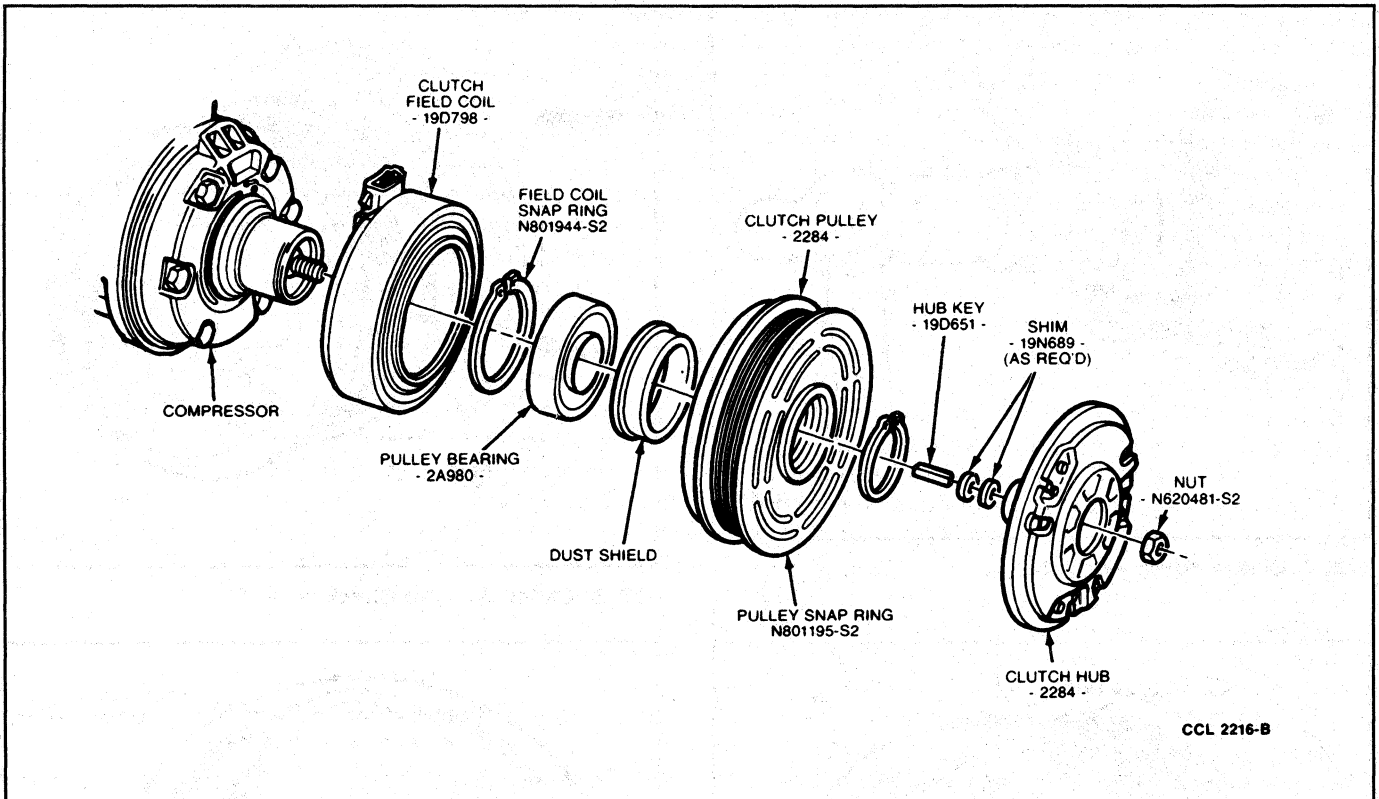

FIG. 5 Clutch Assembly Disassembled
4. Remove two bolts attaching the manifold and hose assembly to the compressor, and remove the manifold and O-rings (Fig. 5).
3. Remove the pulley retaining snap ring (Fig. 5).